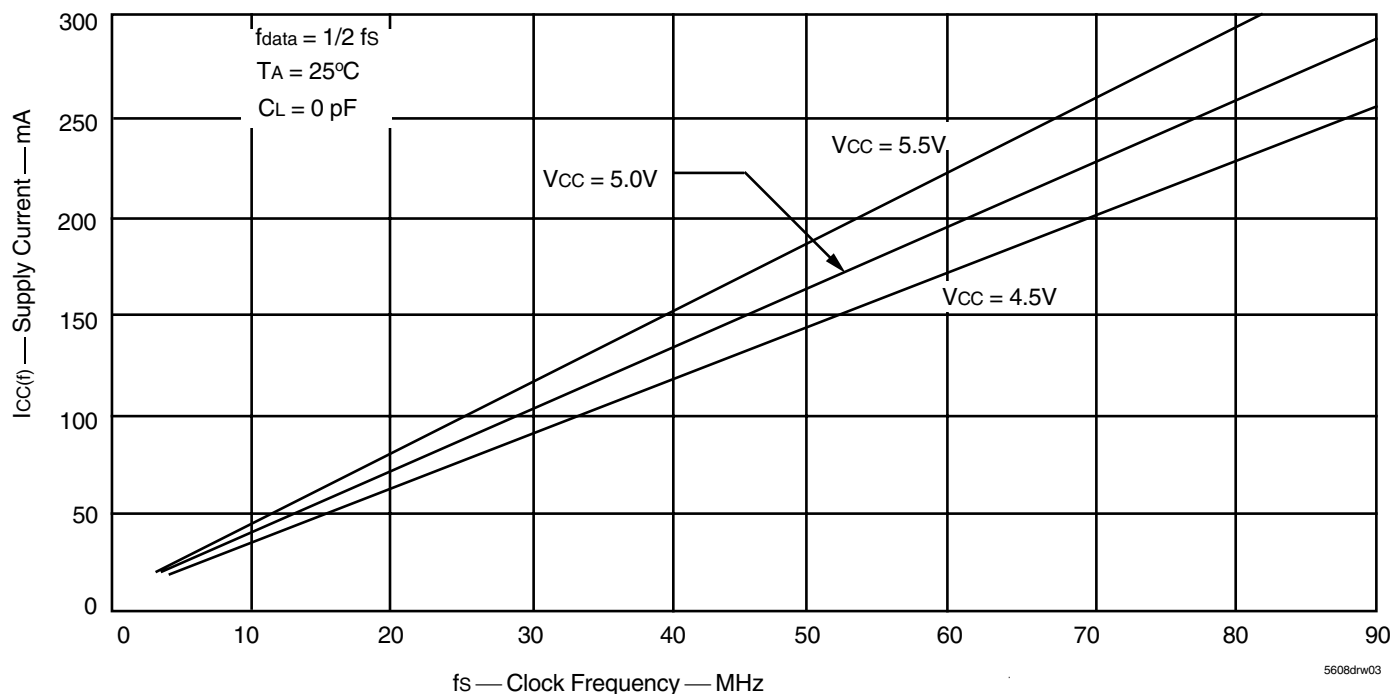

Figure 1. Typical Characteristics: Supply Current (I_{CC}) vs. Clock Frequency (f_s)
- For additional I_{CC} information, see Figure 1, *Typical Characteristics: Supply Current (I_{CC}) vs. Clock Frequency (f_s)*.
The $I_{CC(f)}$ current for the graph in Figure 1 was taken while simultaneously reading and writing a FIFO on the IDT723654/723664/723674 with CLKA and CLKB set to f_s . All data inputs and data outputs change state during each clock cycle to consume the highest supply current. Data outputs were disconnected to normalize the graph to a zero capacitance load. Once the capacitance load per data-output channel and the number of these device's inputs driven by TTL HIGH levels are known, the power dissipation can be calculated with the equation below.
With $I_{CC(f)}$ taken from Figure 1, the maximum power dissipation (PT) of these FIFOs may be calculated by: